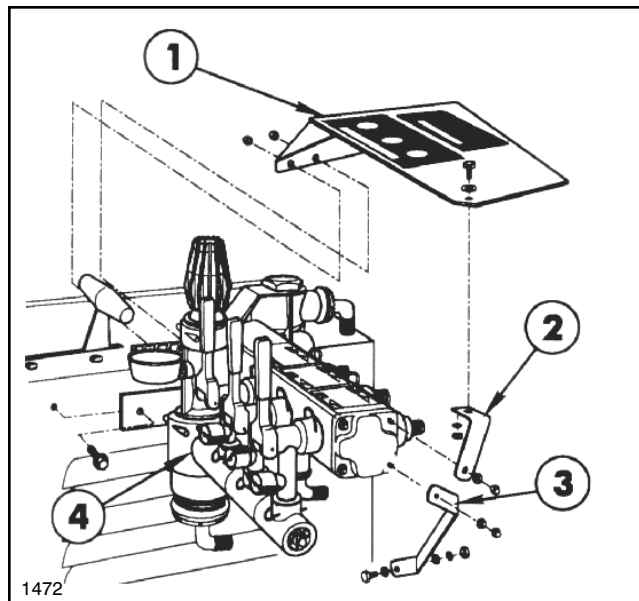

FIG. 3
1. Attach Control Valve/Mounting Bracket Assembly to left side of Seat Box using two (2) 1/4" x 5/8" hex washer hd machine screws. See FIG 3.
2. Remove top two (2) acorn nuts from right end of Control Valve. Attach Splash Shield to the end of Control Valve using two (2) previously removed acorn nuts. **DO NOT TORQUE OVER 30 IN LBS (3.4NM).** See FIG. 3.
3. Remove upper rear acorn nut from left end of Control Valve. Attach Shield Brace and secure with flat washer and previously removed acorn nut. Mount Shield Brace to Shield with 5/16" hex hd cap screw, flat washer, lock washer, and hex nut. **DO NOT TORQUE OVER 30 IN LBS (3.4NM).** See FIG 3.
4. Remove lower rear acorn nut from left end of Control Valve. Attach Valve Brace and secure with flat washer and previously removed acorn nut. Attach other end of Valve Brace to middle slot in rear of Seat Box with 5/16" hex hd cap screw, flat washer, lock washer, and hex nut. **DO NOT TORQUE OVER 30 IN LBS (3.4NM).** See FIG 3.